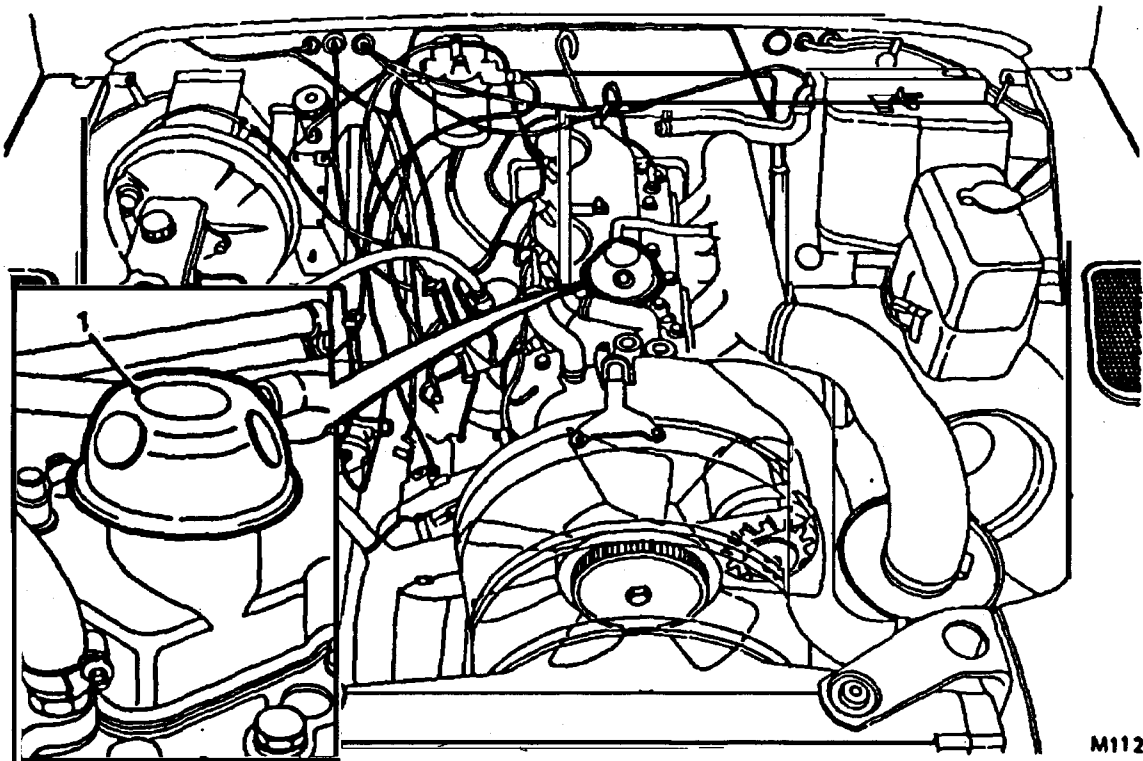

Fig 112 Engine oil filler/breather cap
11.3.6 Remove the engine oil filler/breather cap Fig 112 (1) located on top of the rocker box.